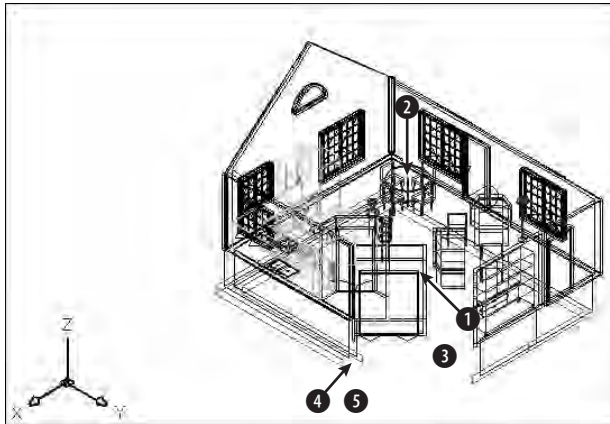

Figure 22-39: The NE isometric view of the house
4. Choose View ⇨ 3D Views ⇨ NE Isometric. The result is as shown in Figure 22-39. This is a quick approximation and helps you plan your camera and target points. To test for endpoints, start the LINE command. Place the cursor at ① in Figure 22-39. The Endpoint SnapTip and marker appear. Place the cursor at ②, the top of the table leg. You should see the Endpoint SnapTip and marker. Press Esc to cancel the LINE command without drawing a line.
6. At the main DVIEW prompt, right-click and choose Points. At the Specify target point <14'-5 15/16", 21'-9 3/8", 6'-1 1/4">: prompt, pick the endpoint at ② in Figure 22-39. At the Specify camera point <14'-6 15/16", 21'-10 3/8", 6'-2 1/4">: prompt, pick the endpoint at ①.
- slightly. At the Specify camera location, or enter angle in XY plane from X axis, or [Toggle (angle from)] <11.72523>: **prompt**, move the cursor close to ❸ in Figure 22-39 *relative to the screen, not the model* and click.
11. Right-click and choose Pan. At the Specify displacement base point: **prompt**, pick ❹ in Figure 22-39 *relative to the screen, not the drawing*. At the Specify second point: **prompt**, pick ❺ *relative to the screen*. The display moves down.